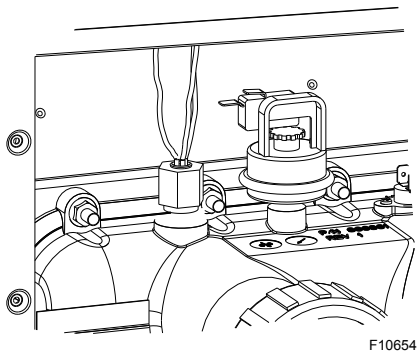

Figure 34. Digital Temperature Sensor Location
3. **Digital Models:** Remove the thermostat temperature sensor by loosening the compression fitting nut. Re-route the sensor to left side of the heater. See **Figure 34**.
4. Remove (12) nuts holding the inlet/outlet and return headers to the tube sheets. Clean off tube sheet area where the gasket seats. Also clean off the header and the gasket. Apply a non-petroleum-based lubricant to the gasket such as Aqualube. Re-attach the headers to the opposite sides, making sure they are installed in an upright position. Do not over-tighten. Torque should not exceed 7 ft/lb. See **Figure 34**.